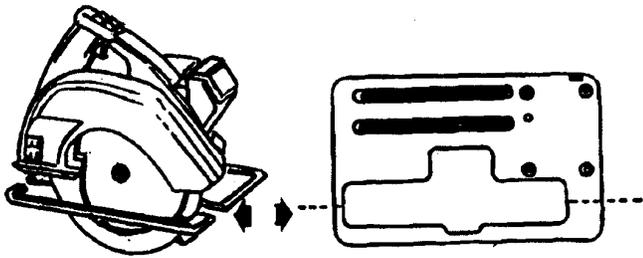

Figure 2
1. Heavy duty 10-1/4-inch builders circular saw (requires minor modification, as shown in Figure 2).